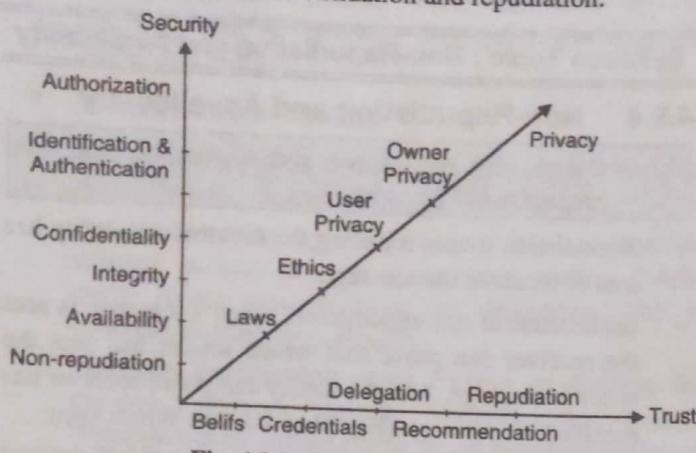

Fig. 4.9.1 : IoT Security Model
- As shown in Fig. 4.9.1, security of the IoT based application focuses on Authorization, Identification and Authentication, Confidentiality, Integrity, Non-repudiation and Availability.